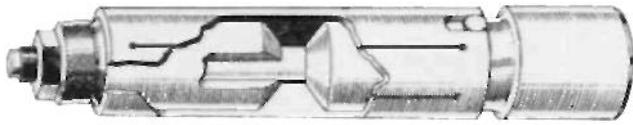

FIG. 18
**Reassembling the flywheels.** If attention to the big end assembly is needed, it is preferable wherever possible to use a factory serviced con rod, as the big end liner also small end bush is finished ground *in situ* to ensure concentricity. Alternatively, use a lapping tool A 8078 as shown in Fig. 18 for the new con rod liner after it has been replaced. The degree of interference fit between the liner and the con rod controls the contraction of the liner. Although liners issued as spares are finished, ground to a pre-determined size, concentricity cannot be guaranteed, hence the use of a lapping tool in some cases.